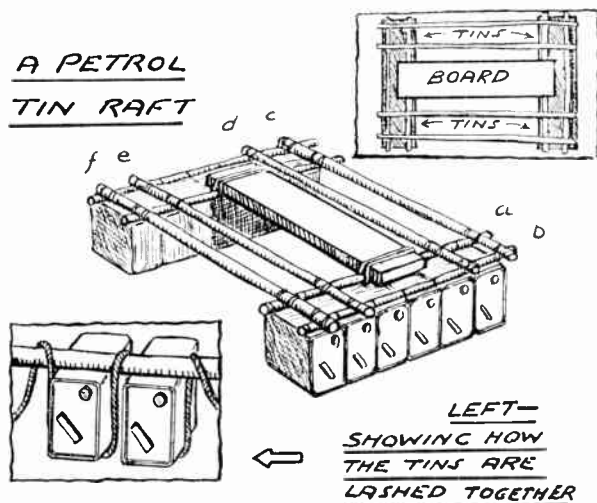

Fig. 1
Twelve tins are required and these are laid out in two rows of six each, with their filling caps towards the top. All the caps, incidentally, must be securely screwed down. Two spars (A and B) Fig. 1 are then required to go along the full length of the upper sides and four more as (C), (D), (E) and (F) to go at right angles. These spars must be firmly lashed together into the framework shown before dealing with the tins, the square lashing again being used at all points of intersection.